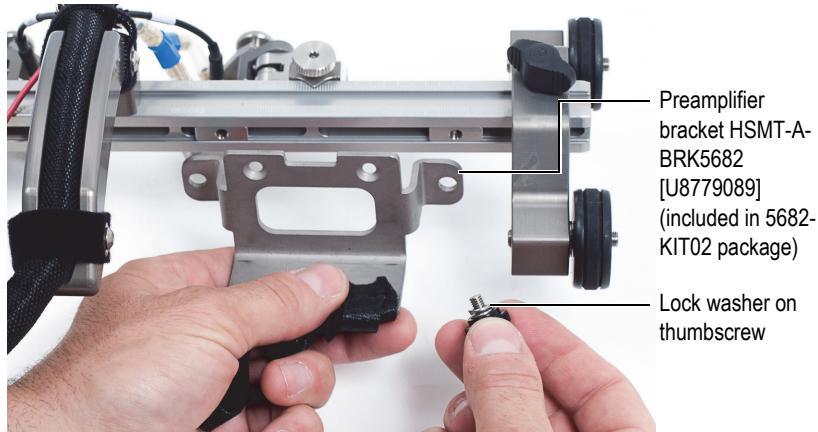

Figure 1-22 Securing the preamplifier bracket
4. Insert a lock washer on each preamplifier bracket thumbscrew (see Figure 1-22 on page 35).
5. Secure the preamplifier bracket to the dovetail nuts using the thumbscrews (see Figure 1-22 on page 35).